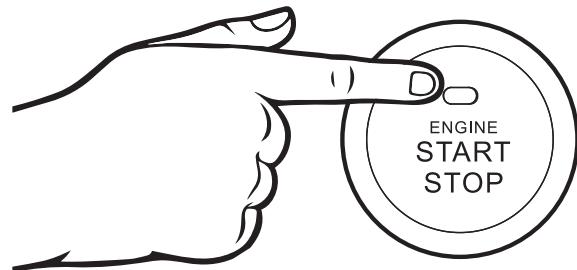

Figure 15 - Push Button Start
6. Push and hold the engine start push button for 1 second and release (see Figure 15).